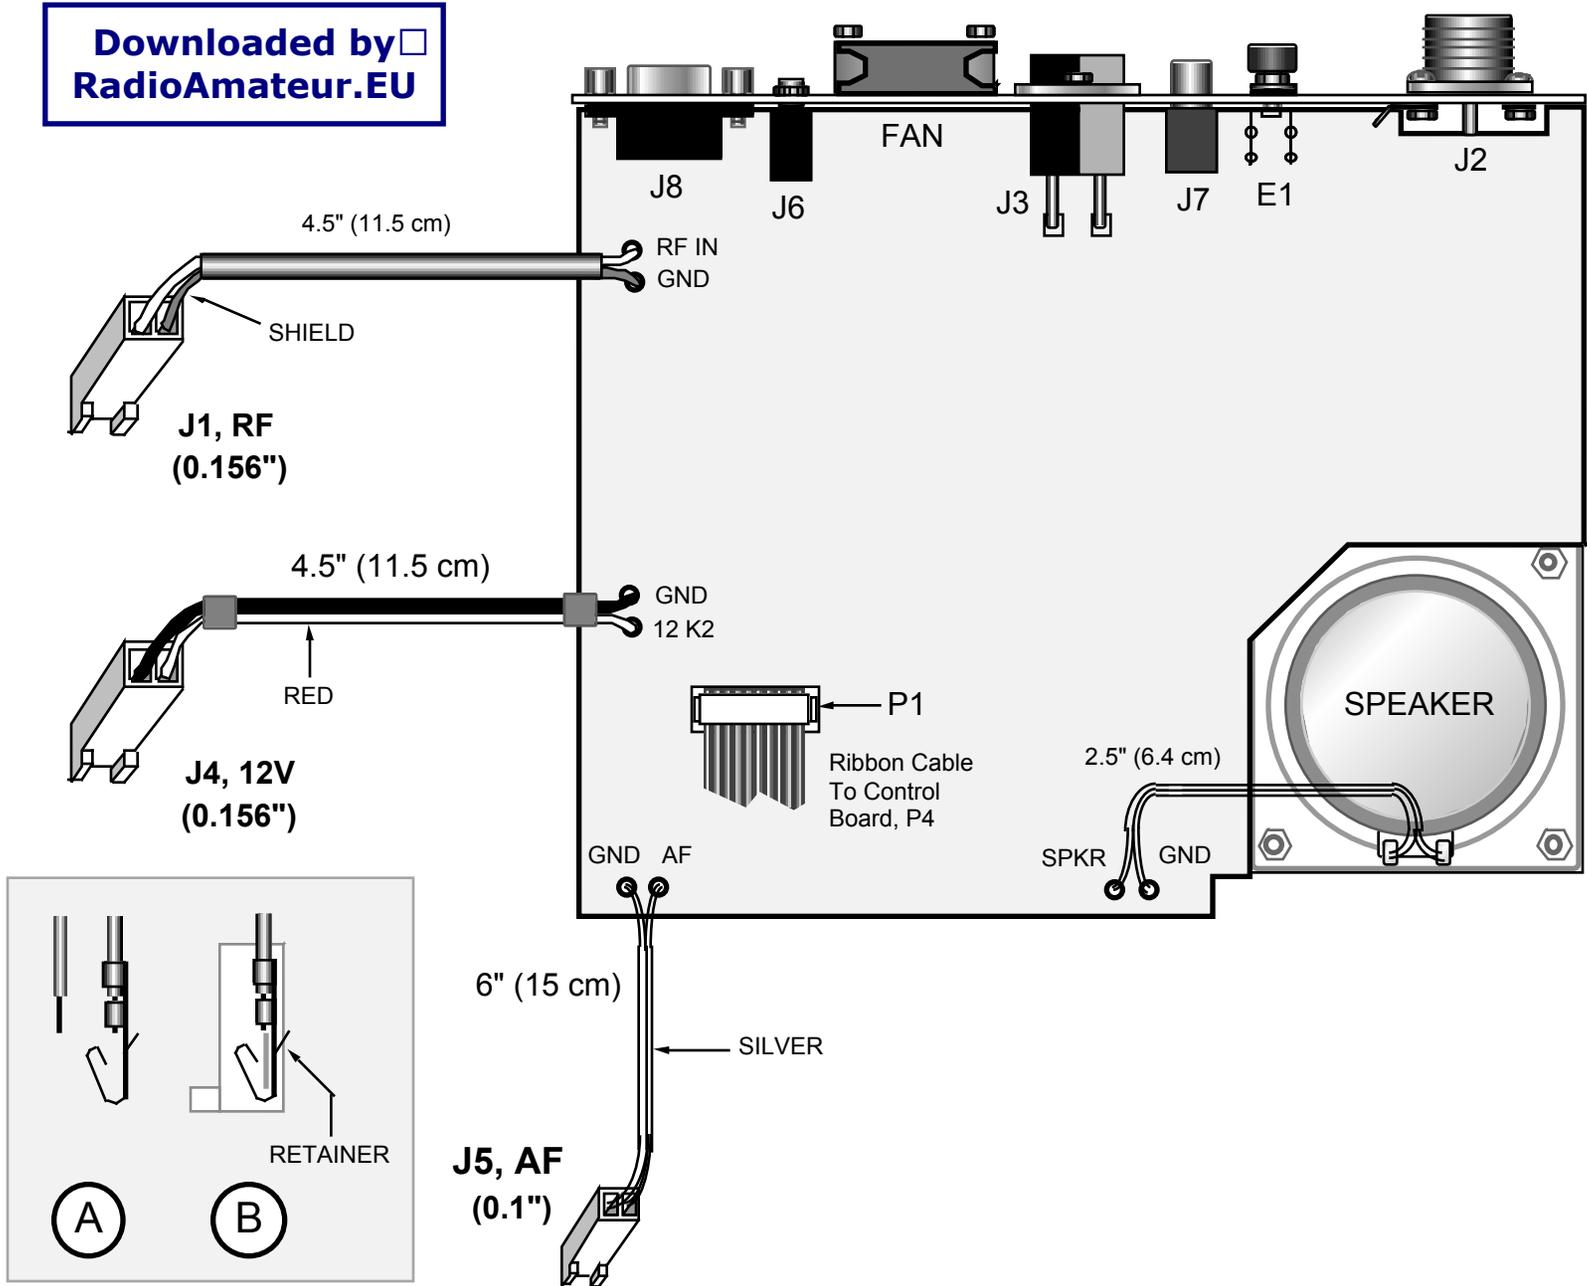

Figure 32
Insert the terminals into a large 2-pin housing as shown in Figure 32 (**black** wire on the left, **red** wire on the right).
- Place the speaker on top of the grille cloth and fibre washers (Figure 34). Align the speaker frame with the front and side edges of the heat sink. **The speaker terminals should face the front, as shown in Figure 32.**